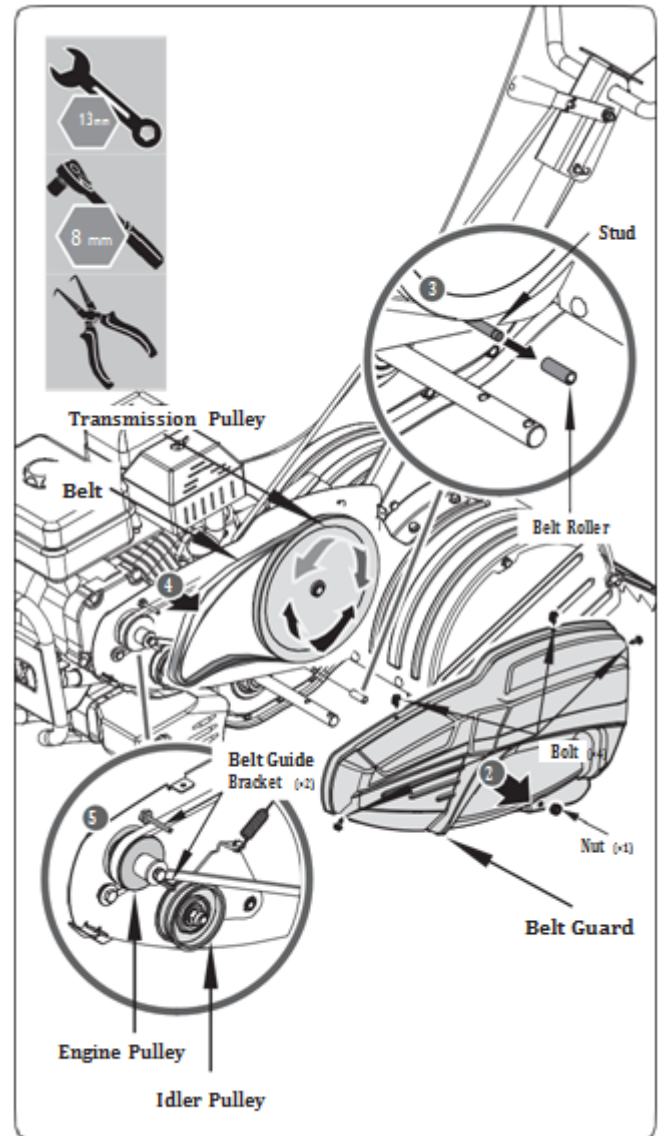

Figure 17
2. Remove the 4 bolts and 1 nut on the belt guard to expose the belt assembly. (See Figure 17, illustration 2)
3. Slide the belt roller off its stud below the large transmission pulley. (See Figure 17, illustration 3)
4. Remove the belt from the engine and idler pulley: Rotate the transmission pulley and pull the belt gently through the roller stud while working it free from the pulley. (See Figure 17, illustrations 4 & 5)